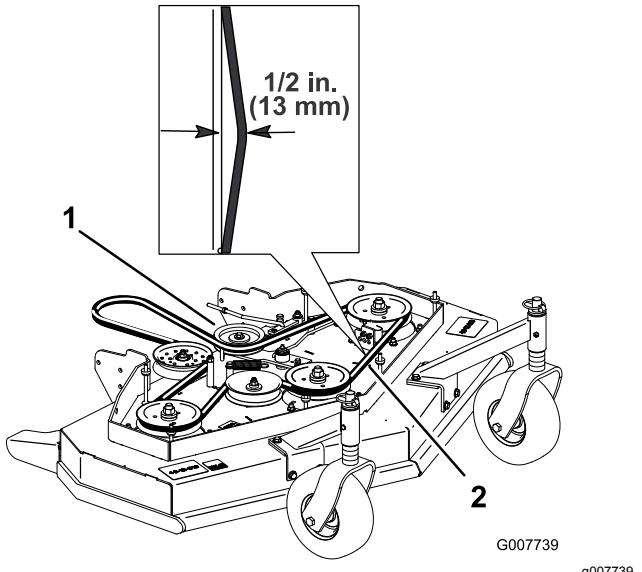

Figure 45
4. Remove the idler pulley and the worn belt (Figure 45).
Note: The proper mower belt tension is 44 to 67 N (10 to 15 lb) with the belt deflected 13 mm (1/2 inch) halfway between the pulleys (Figure 45).